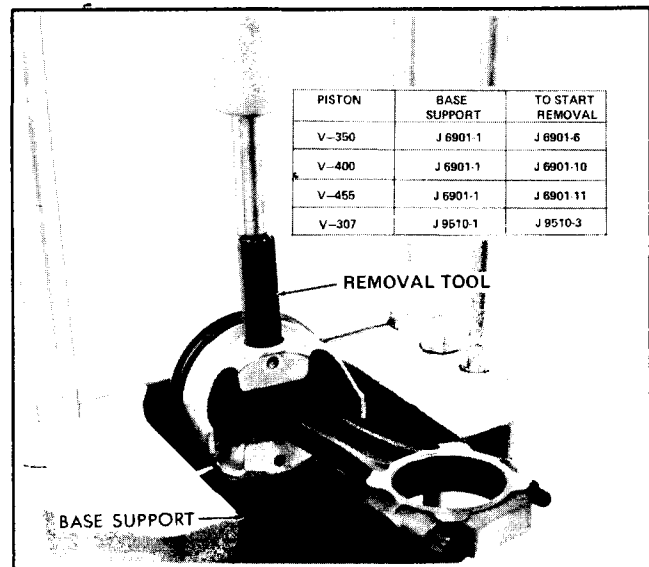

Fig. 6-154 Removing Piston Pin
2. Using a suitable arbor press, place the spring and plunger into the bore of the base support and position on an arbor press with the pilot plunger indexed in the bottom of piston pin bore. See insert in Fig. 6-154 for correct base support and pilot plunger for the type pistons being serviced.